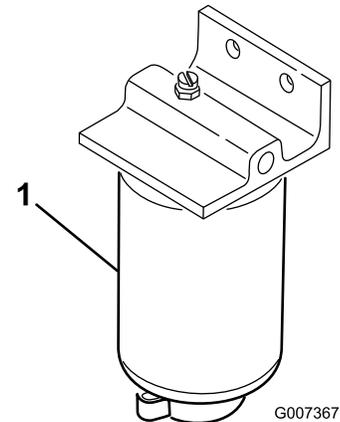

Figure 51
Drain the water or other contaminants from the water separator (Figure 51) daily. Replace the filter canister after every 400 operating hours.
2. Loosen the drain plug on the bottom of the filter canister (Figure 51).